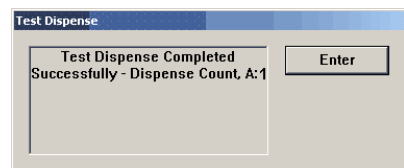

Figure 6. Test dispense prompt.
11. Open the control panel and apply AC power to the ATM by pushing the AC power switch to the ON (1) position.
- e. After completion of the Test Dispense operation, the following prompt is displayed - “Test Dispense Completed Successfully - Dispense Count, A:1 (# of notes)”. (Figure 6)